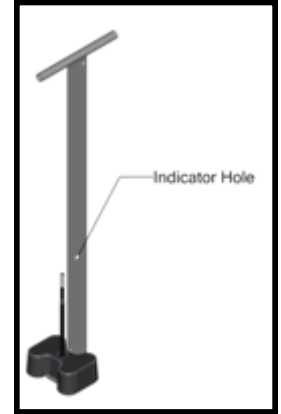

Figure 8.
4. Align the EZ Dock sections and the EZ Pontoon Lift so coupler pockets are adjacent to each other (Figure 8).
5. Using the in-water installation tool (Item 7), insert the coupler and bolt assembly into the bottom pocket with the bolt pointing upward (Figure 8).